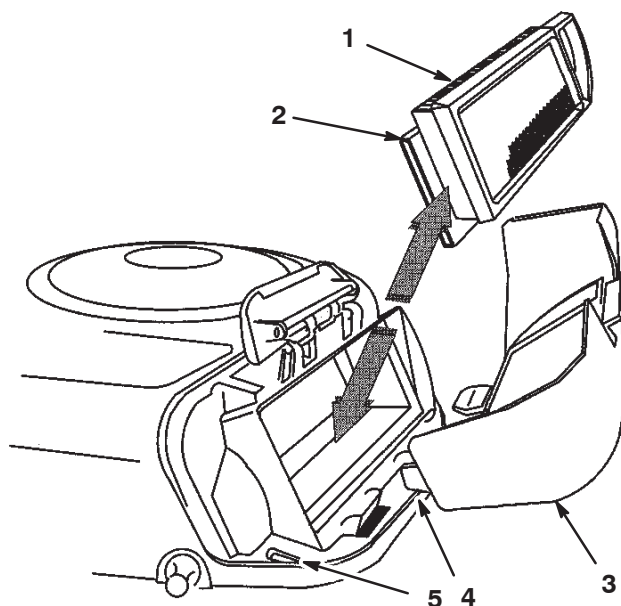

Figure 22
3. Carefully slide the paper element and foam element from the blower housing (Fig. 22).
2. Align the tabs on the air cleaner cover with the slots of the blower housing (Fig. 22).